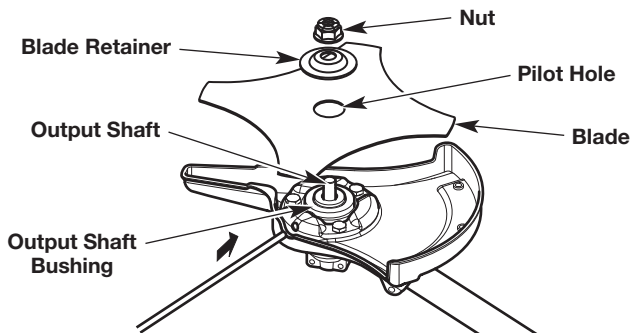

Fig. 29
4. While holding the locking rod in place, put the blade on the output shaft bushing (Fig. 29).
**WARNING:** To avoid serious personal injury, make sure that the pilot hole on the blade is sitting flat against the output shaft bushing (Fig. 29). The unit will vibrate and the blade may fly off if the blade is not centered.
5. Place the blade retainer on the output shaft with the flat surface against the blade (Fig. 29).
6. Screw the nut onto the output shaft (Fig. 29).